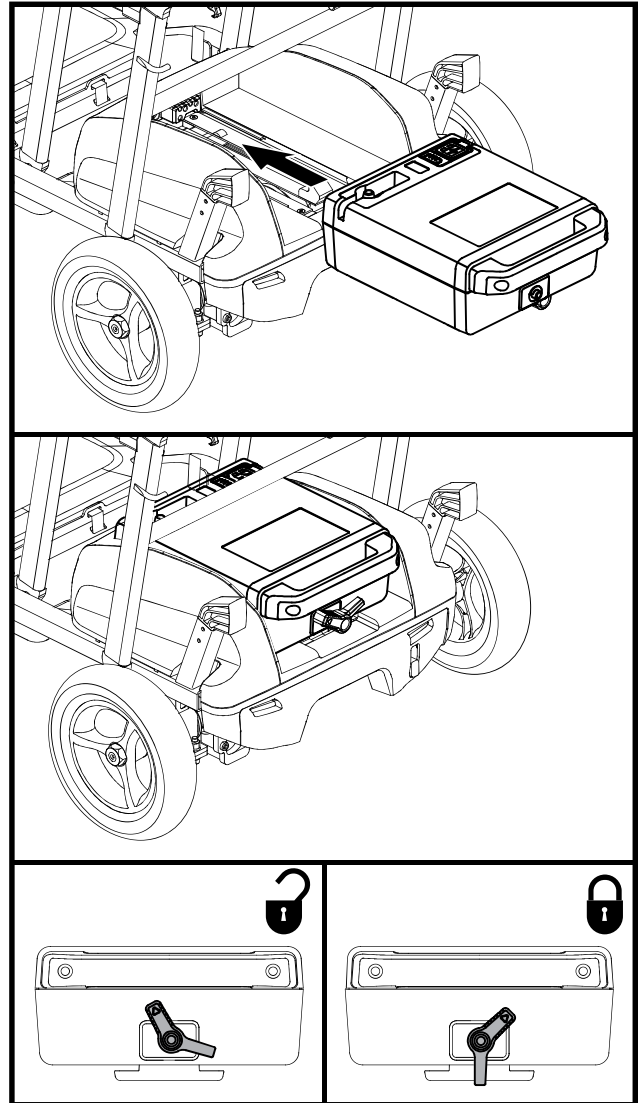

Figure 11. Battery Removal/Installation
To remove/install the battery pack, see figure 11:
2. Install the battery if necessary. See figure 11.